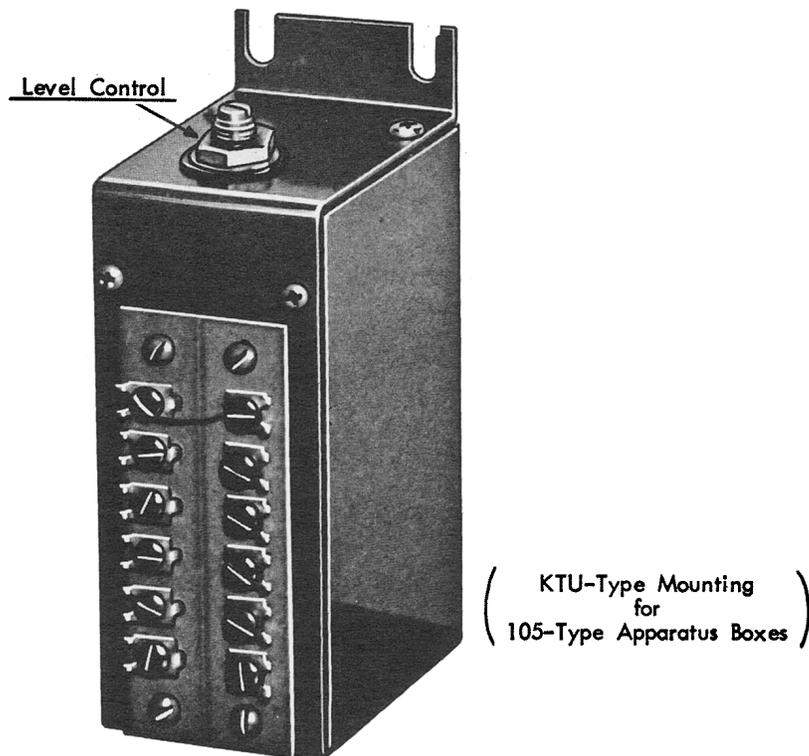

Fig. 7 - AP-B Applique Unit
2.25 Applique unit AP-B, shown in Figure 7, is used with 1200-series master stations for zero-level communication over telephone cable. It is used with either the annunciator or the regular-type master station having buzzer call-in.